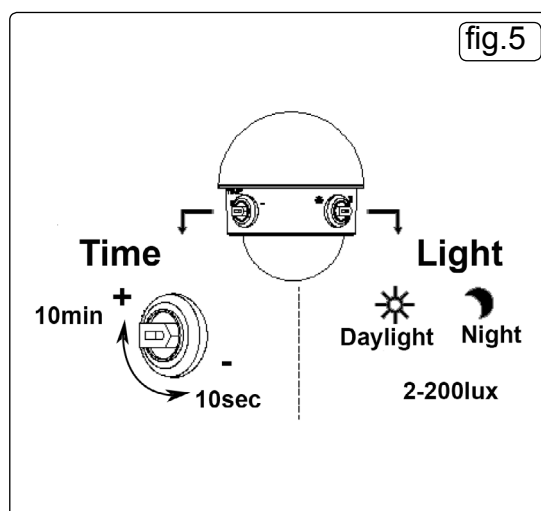

fig.5
- 4.11. The infra-red detector is equipped with two adjusting dials (fig.5).